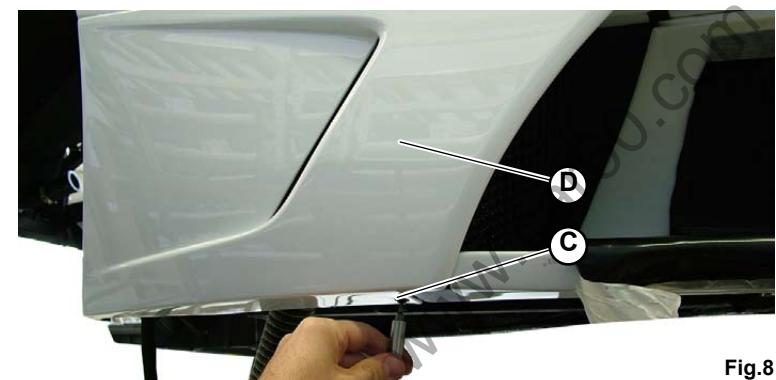

Fig.8
3. Unscrew the screw (C-Fig.8) on the lower part and remove the rear part of the side member (D-Fig.8).